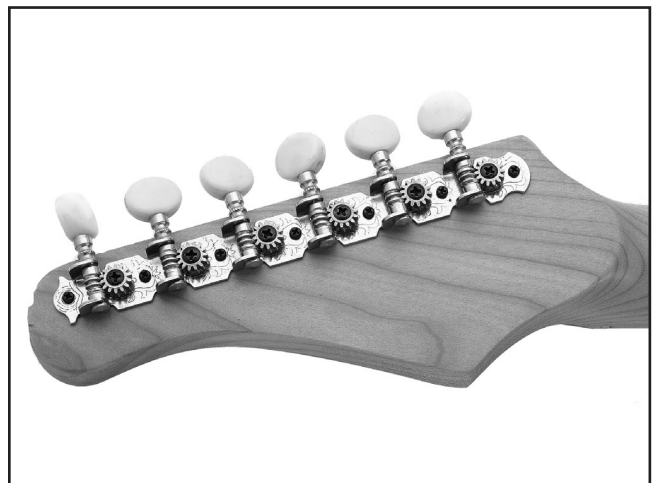

Figure 8. Tuning head plate installed correctly.
4. Align the tuning head plate over the mounting holes and secure with #3 x $\frac{3}{8}$ " black screws as shown in **Figure 8**.